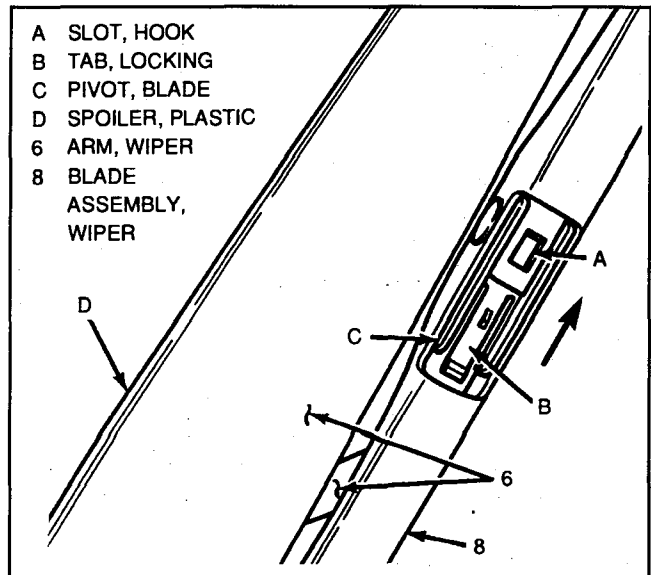

Figure 13 — Wiper Blade Assembly Installation
1. Position pivot of blade assembly (8, Figure 13) in hook of wiper arm (6), then pull blade assembly upward until locking tab of blade pivot engages slot in arm hook.